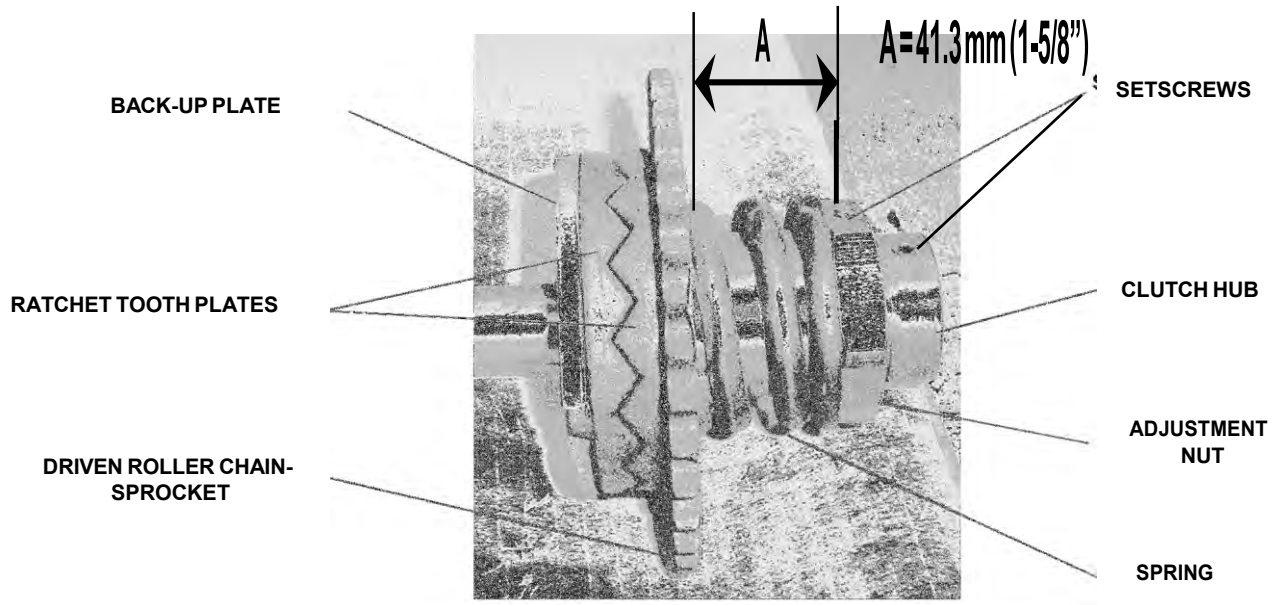

Figure 4. Ratchett Slip Clutch
This unit is preset at Jorgensen Conveyors, and should only require resetting if clearing the overload does not stop the ratcheting. Refer to Figure 4 and proceed as follows, for either the first stage and/or second stage as appropriate:
**NOTE: The ratchet slip clutch is preset at Jorgensen Conveyors to 1-5/8" (41.3 mm) (A, Figure 4). Do not compress the spring to anything less than 1-1/2" (38.1 mm) as this will disable the clutch.**